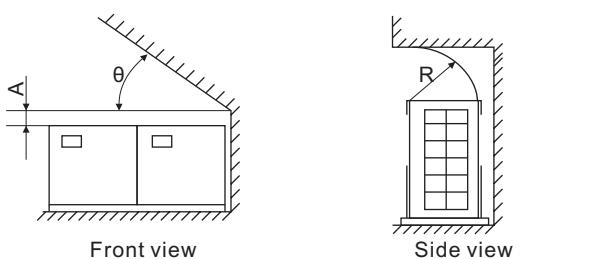

Fig. 3.15 Barrier above outdoor unit
7) When there is any barrier above the outdoor unit, please see Fig. 3.15.